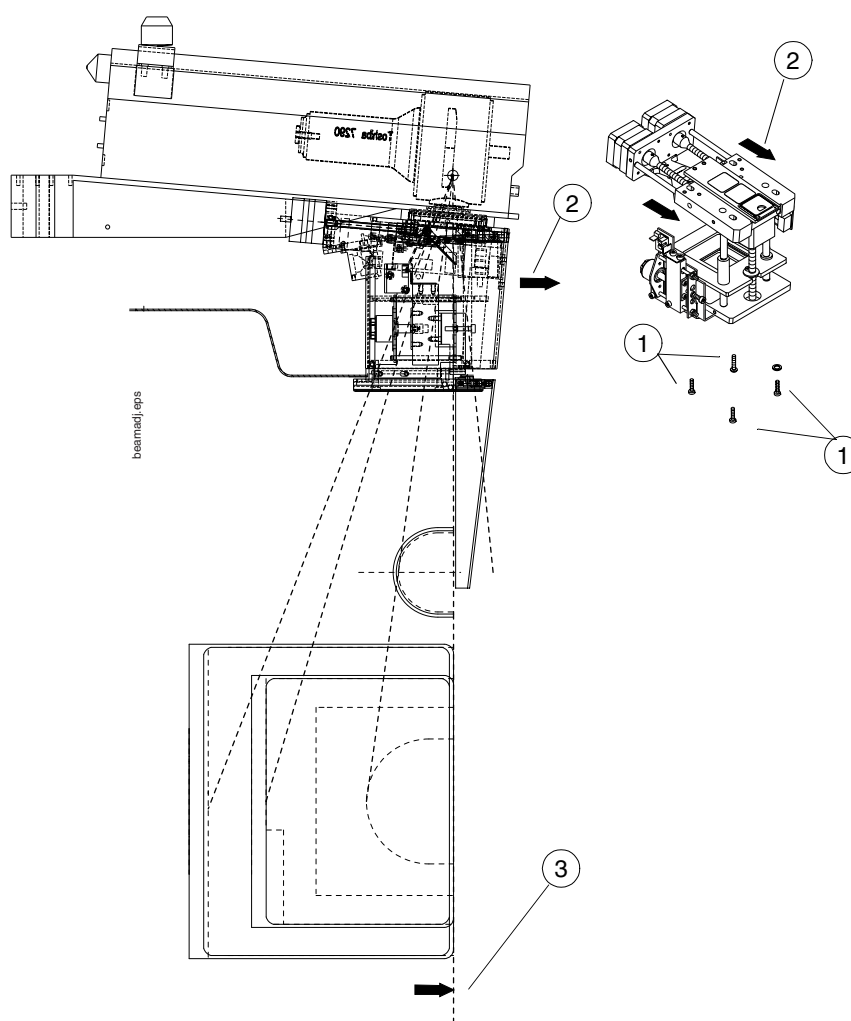

Figure F.8
- Loosen the collimator screws (Fig. F.8, 1) and pull the collimator assembly to the front at the TUBEHEAD (Fig. F.8, 2), to make sure that the X-ray beam reaches over the cassette table front edge (Fig. F.8, 3).